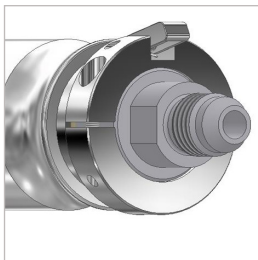

Figure 13
- ▶ Slide the sliding sleeve lock (Pos. 2) axially (*Figure 12*) and align it correctly (*Figure 13*) with the wrench flats of the lower part (Pos. 3).